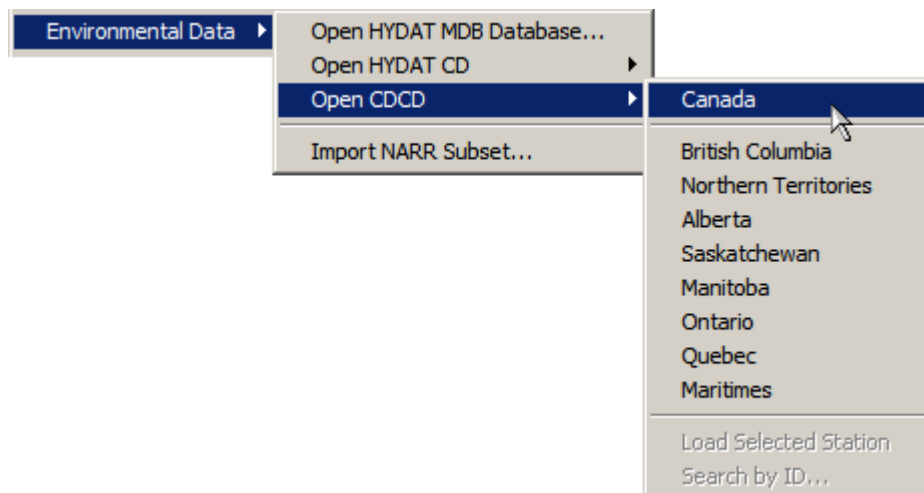

Figure 3.12: This menu is used to access the CDCD database
2. The CDCD stations can be accessed for all of Canada, or by individual region. Select one of the choices shown in Figure 3.12.